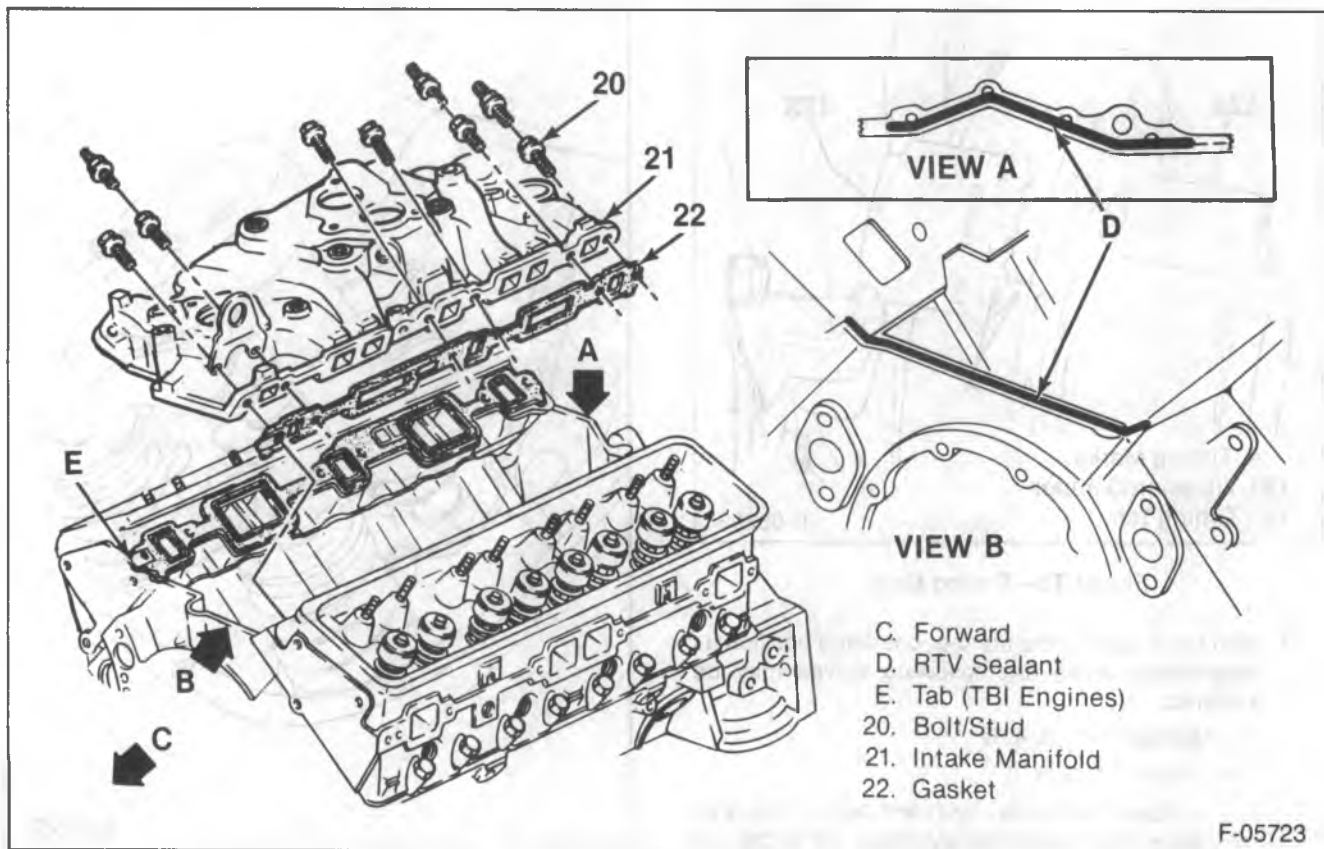

Figure 74—Intake Manifold (5.0L and 5.7L Engines)
Install or Connect (Figures 74 and 75)
- Refer to figure 74.